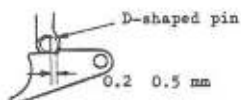

Fig.4-43
- a When the back cover is opened with the shutter uncocked, a proper clearance must be maintained between the step of the stabilizer and D-shaped pin on the stopper release lever, as shown in Fig. 4-43.